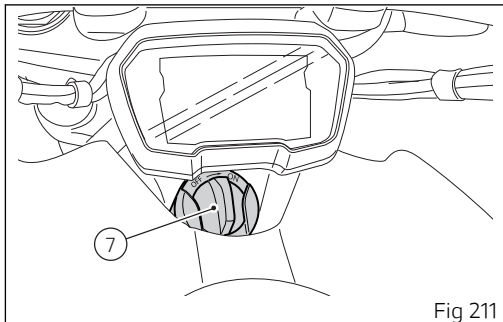
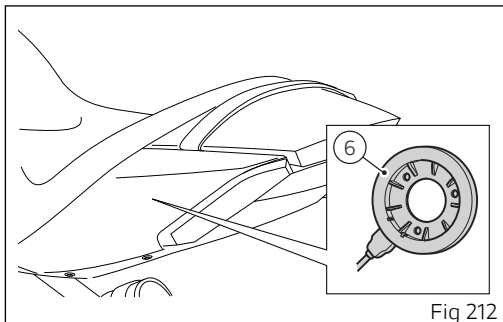

Fig 211
Fig 212
(Fig 211) indicates the position of the Hands Free block (7) and (Fig 212) indicates the position of the antenna (6).